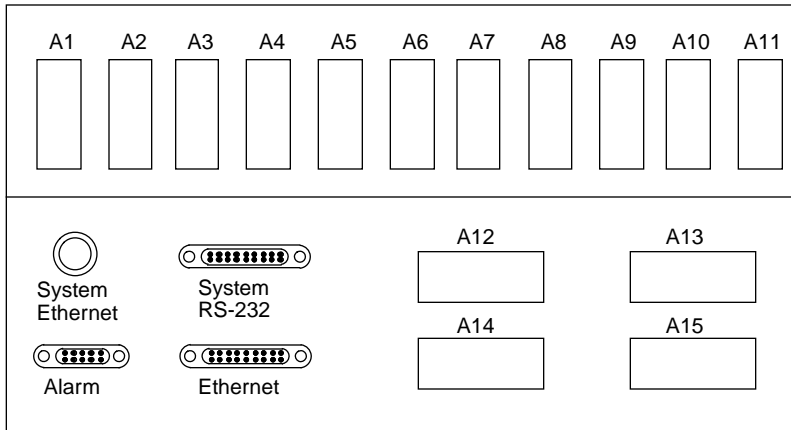
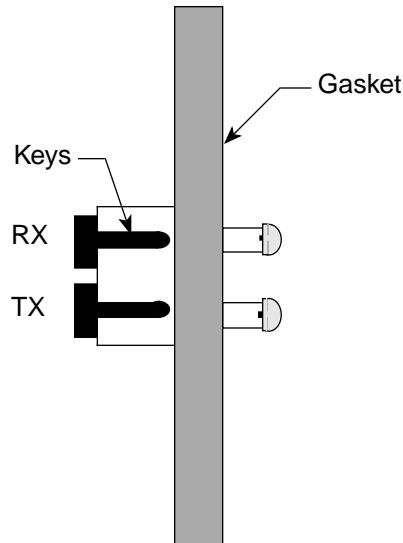

Figure 3. I/O Bulkhead
Figure 4. ATM-1V Bulkhead Connector Assembly
- 1. Remove the cover plates from I/O bulkhead location A14 or A12. Refer to Figure 3. Each cover plate is connected by two screws.
- 2. Install the assembled ATM bulkhead plate into slot A14 or A12 with the keys facing upwards. Refer to Figure 4.
5. Reconnect the flexible cable way using the two screws originally removed from the flexible cable-way bar. Refer to Figure 4.
Connect the multimode 3-meter cable assembly (P/N 90369300) cable to the I/O bulkhead plate as shown in Figure 3. Ensure that the keys are facing upwards as shown in Figure 4, and then connect the cable connectors labeled RX and TX.